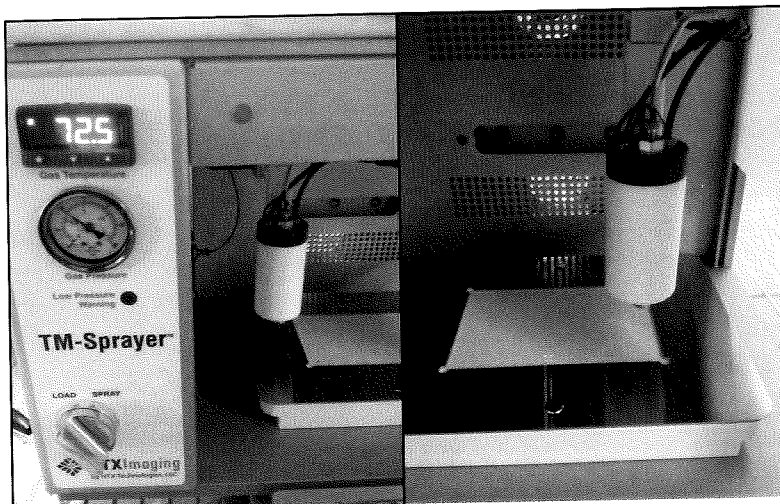

Figure 2a. Outer Temperature Display Figure 2b. Spray Nozzle Body
- Temperature controller indicates temperature of spray nozzle body (72.5°C as displayed in Figure 2a).